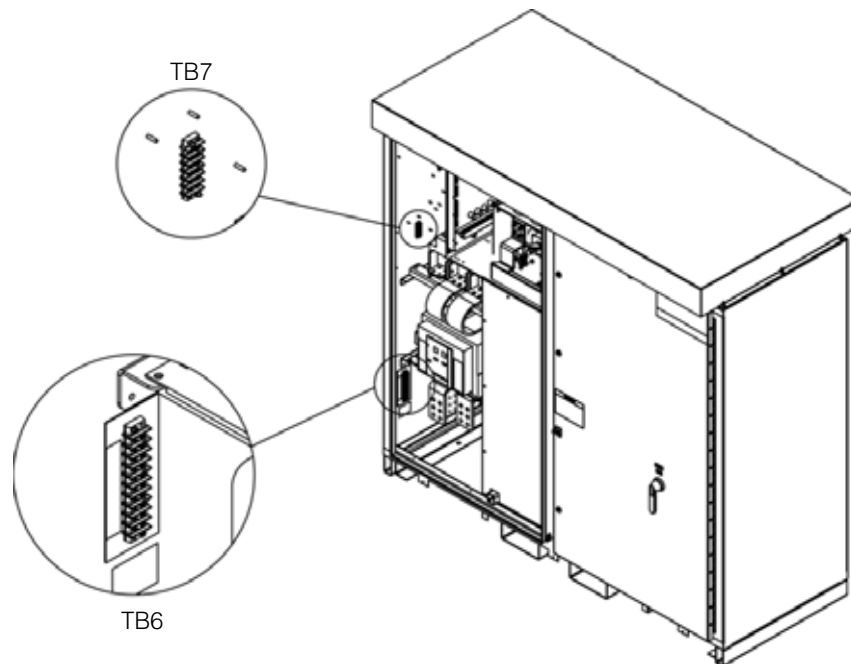

Figure 1-4 Remote Control Terminal Connections
- Figure 1-4 Remote Control Terminal Connections----- 1-6